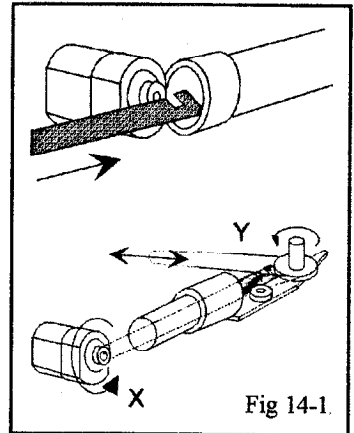

Fig 14-1.
6. Re-assemble the Hoverfly, and test the tail before flying. Especially, ensure that the direction is correct. (See Fig 14-1)
2. Pass the special Belt Insertion Tool into the motor end of the boom, in front of the motor pulley, hooked-end first and uppermost (Fig 14-1). When it comes out of the other end, position the hook next to the near edge of the large pulley, as illustrated.